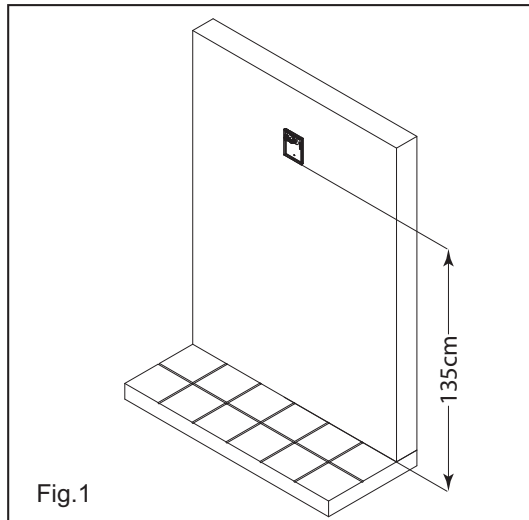
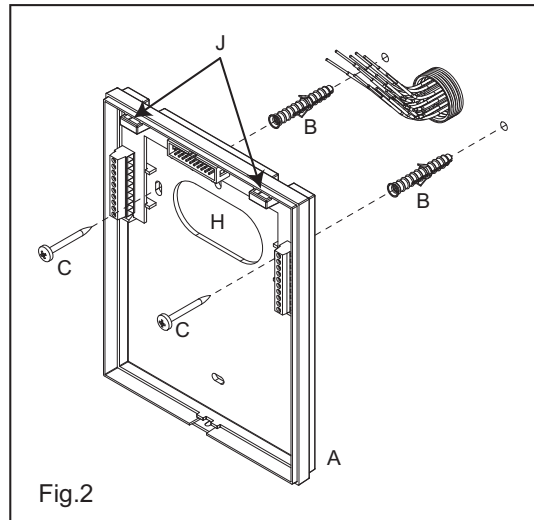
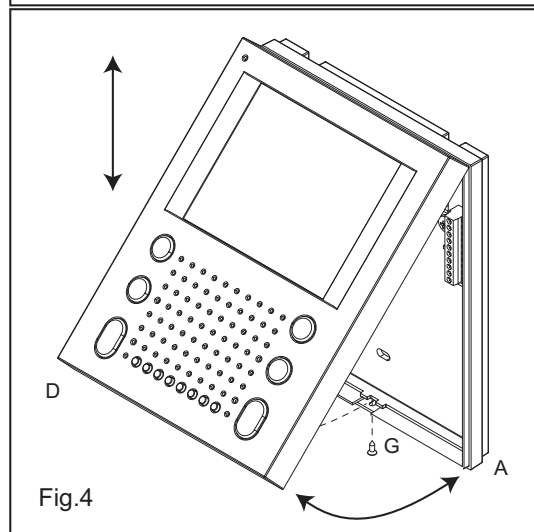

Fig.1
Fig.2
Fig.4
- Put the bottom "A" against the wall at 135cm from the finished floor (Fig.1). All cables must be fed through hole "H" (Fig.2).
- Leaving approximately 135cm from the finished floor, fit the bottom "A" against the wall and mark the fixing holes considering that the cables must be fed through the opening "H" (Fig.2)
- Make the holes, and fix bottom "A" on the wall using the two wall plugs "B" and the two screws "C" as shown in figure 2.
- Hook cover "D" to bottom "A" by using the two clips "J" (Fig.2) as shown in figure 4 then push down cover "D" towards bottom "A". Then proceed with system testing.
- When finished the testing, fix cover "D" at the bottom "A" using the screw "G" (Fig.4).